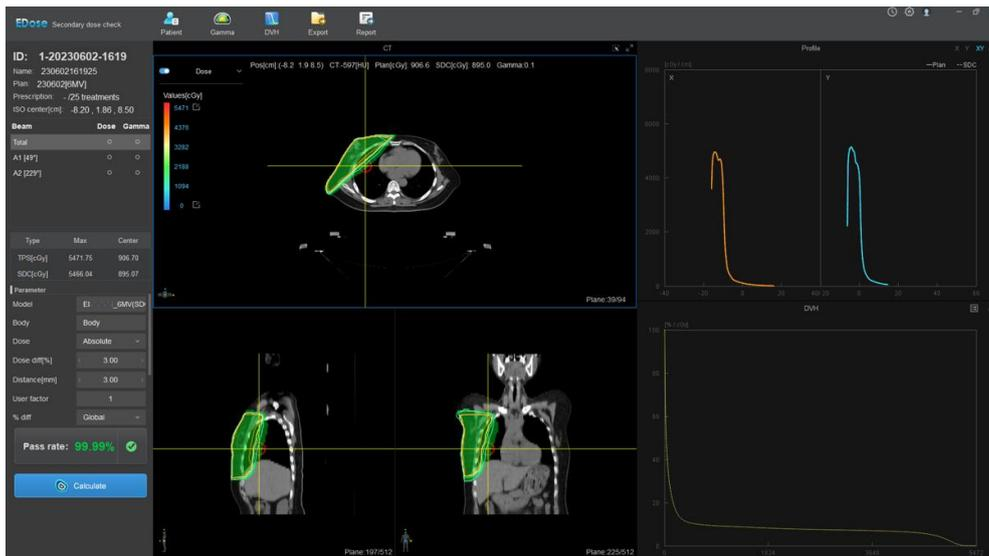

Figure 3-5 Sub-window of SDC
- 1) "Open": Click "Open" or double-clicking on a measurement will take you to the detailed interface of the measurement, for example, the sub-window of SDC as shown in Figure 3-5.